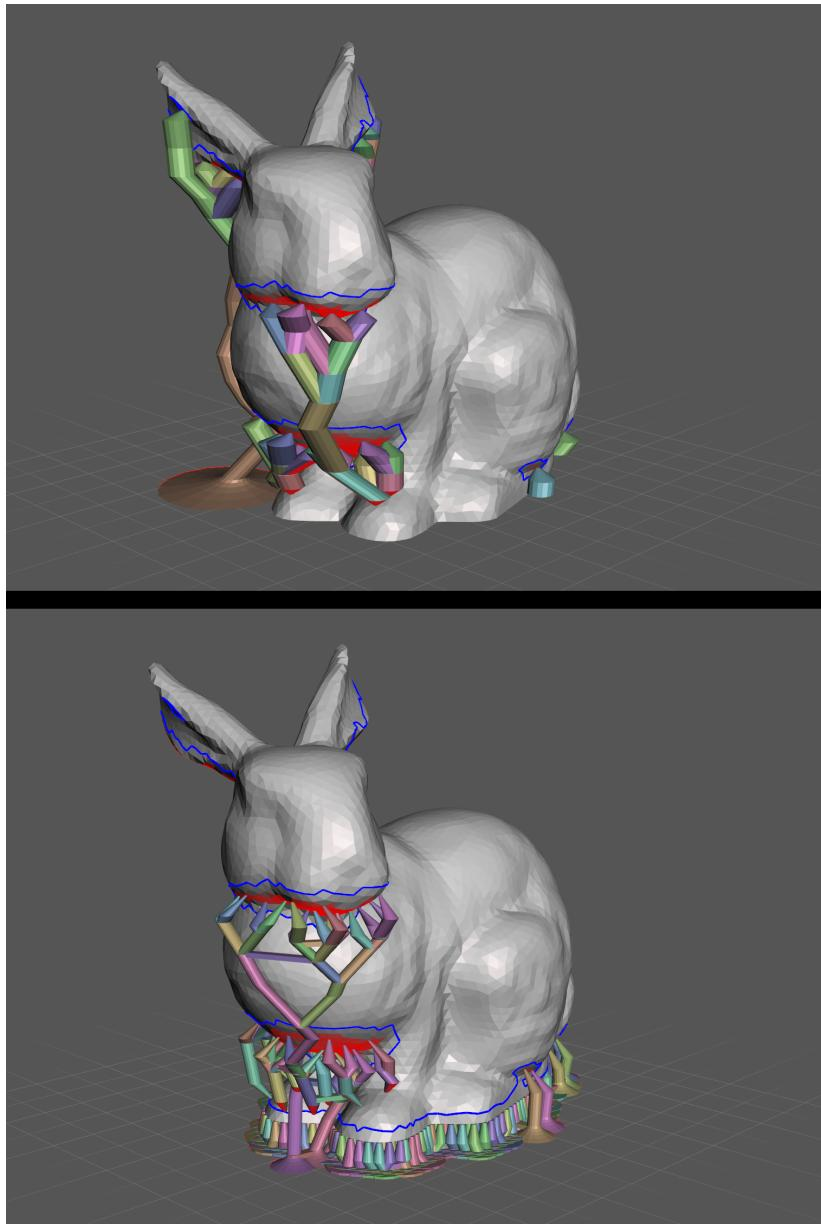

Figure 5-14. Differences in support structures generated in Meshmixer with the same overhang settings for an FDM printer (top) and SLA printer (bottom)
- All SLA prints experience adhesion between the newly cured layer touching the bottom of the vat and the build plate, or previously printed layers. In between actual printing, the printer will "rip" the print off of the bottom of the vat by moving upward, and then move downward again for the next layer to be cured. All resin prints have a platform that is printed first to prevent those strong forces from being applied to your model. Figure 5-14 shows the difference between SLA and PLA support structures, including the first layer of supports seen in SLA prints.